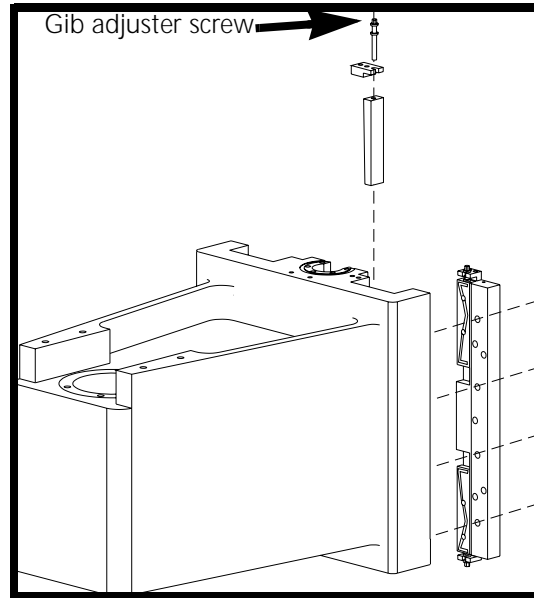

Figure 6-8 Gib Strap Assemblies on Spindle Head
- 1) Center the saddle to the Y-axis cold start position. Attach the magnetic base and indicator to the saddle. Position the indicator as shown in Figure 6-8. Set the indicator to zero.